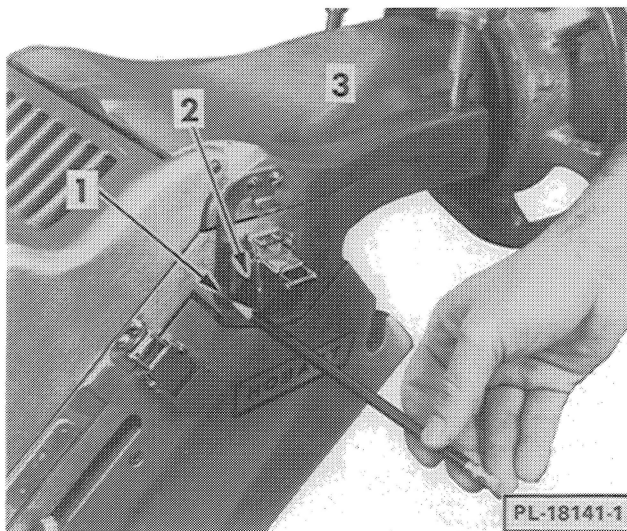

Fig. 5
- With the grilled cover in the "UP" position, slide cover with orifice forward so the "L" shaped safety lock (1, Fig. 5) is under clip (2, Fig. 5) as shown. Raise upper orifice (3, Fig. 5) so that groove and flange properly engage chopper adapter.